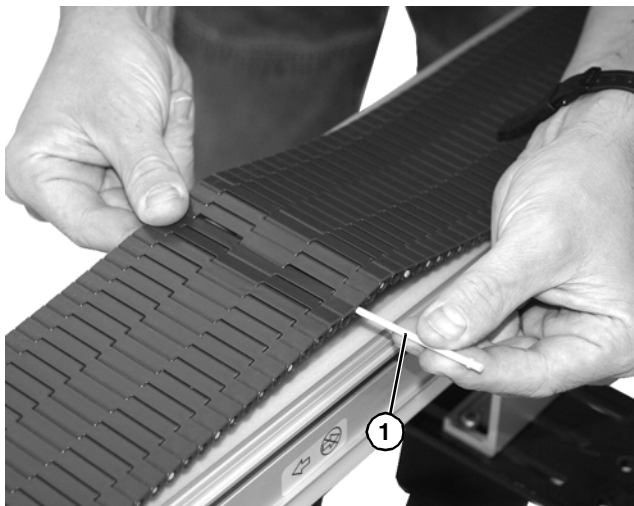

Figure 25
3. Remove rod (Figure 25, item 1) and separate belt.